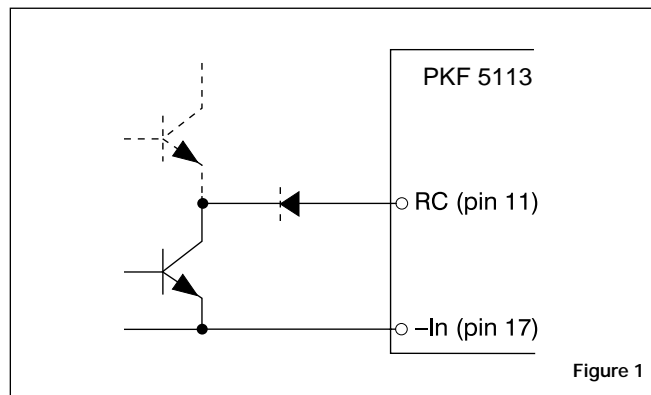

Figure 1
Turn-on or turn-off can be realized by using the RC-pin. If pin 11 is connected to pin 17 the power module turns off. Normal operation is achieved if pin 11 is open (NC). To ensure safe turn-off the voltage difference between pin 11 and 17 shall be less than 1.0V. RC is an open collector compatible input. A sink capacity of 1mA is needed. (see fig. 1).